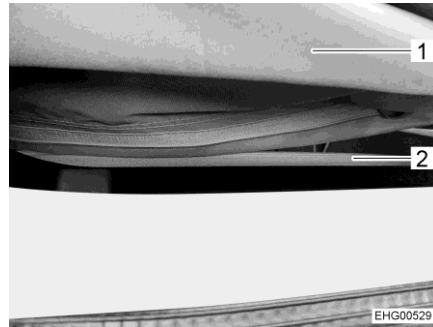

Fig. 70 Zip
- Fully open the zip (Fig. 70,2) on the underside of the bellows (Fig. 70,1).